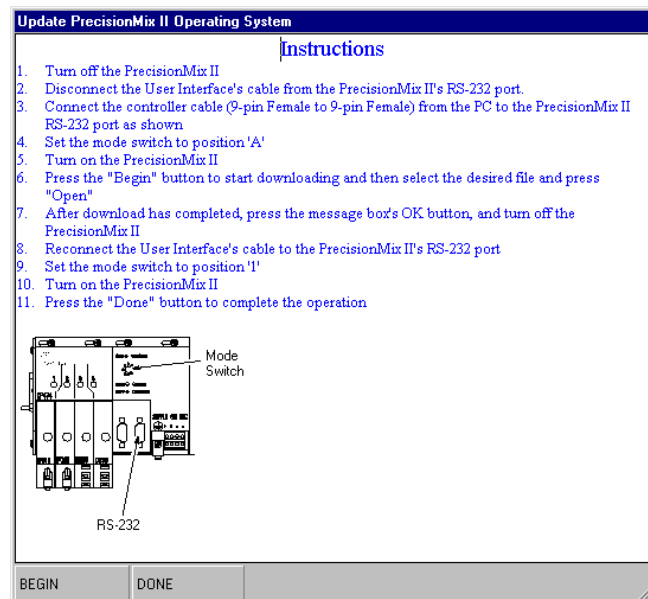

Fig. 13.27
- Press the DONE button to close the Instructions window. See Fig. 13.27.